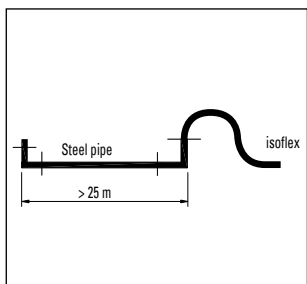

fig. 5
- When connecting isoflex to steel pipes > 25 m, follow the rules shown in fig. 5.